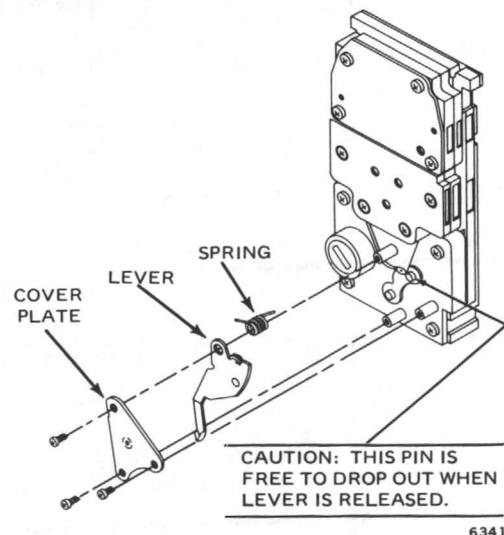

Fig. 21. Day/ Auto Lever Assembly Replacement.
1. Remove the three Phillips head screws which fasten the lever mechanism to the back of the thermostat (Fig. 21).